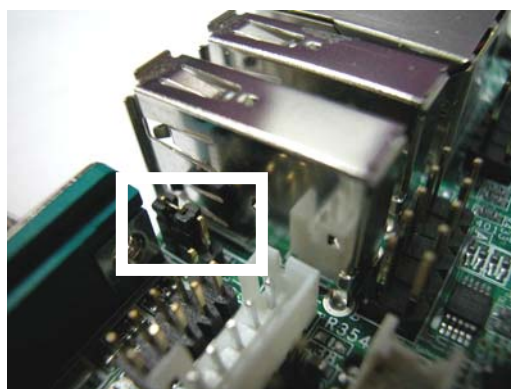

Figure 5-3
**A:** Each beep sound pattern represents different definition of error. Therefore, refer to the table as follows. If it doesn't still boot up normal, and you make sure all of jumper setting, and configuration is as default, please try to move JP3 from 2-3 to 1-2, then back to 2-3 in order to clear CMOS. (Please see figure 5-3).